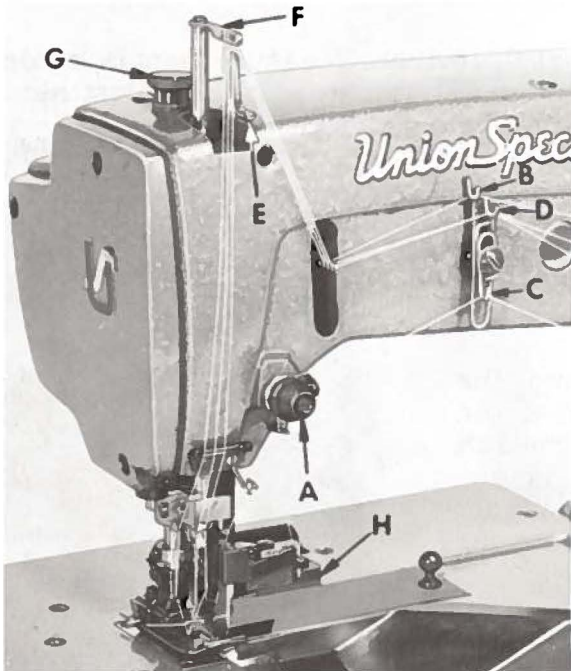

Fig. 13
The spreader thread tension is applied at tension nut (A, Fig. 13). The adjusting nut should be set so that the tension on the spreader thread is  $\frac{1}{2}$  ounce or more, depending on the type of thread being used.
Set the 401 stitch needle thread frame eyelet (B, Fig. 13) 1 inch above, and the spreader thread frame eyelet (C),  $\frac{1}{2}$  inch below the center of the mounting screw. Set the 602 stitch needle thread frame eyelet (D) as high as possible without drawing thread on the downstroke.
Set the needle thread take-up wire (E, Fig. 13) located adjacent to the needle bar thread eyelet (F) so that its upper surface is even with the top of the holes in the needle bar thread eyelet, when the needle bar has
Regulate the presser spring regulating screw (G, Fig. 13) so that it exerts only enough pressure on the presser foot to feed the work uniformly when a slight tension is placed on the fabric. This is the knurled screw, located directly behind the needle bar in the head of the machine. Turning it clockwise increases the pressure, counterclockwise acts the reverse.
NOTE: Upper knife lever thrust bracket (H, Fig. 13) should bear against upper knife lever.